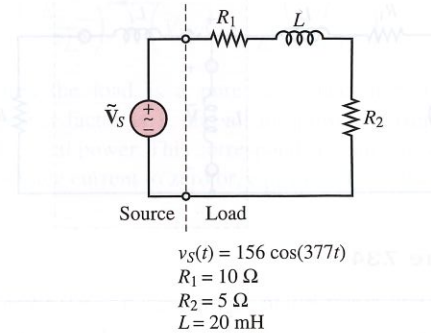

Figure 7.32
- For the circuit shown in Figure 7.32, show the connections of a wattmeter between the ideal voltage source and the load and find the power dissipated by the load.